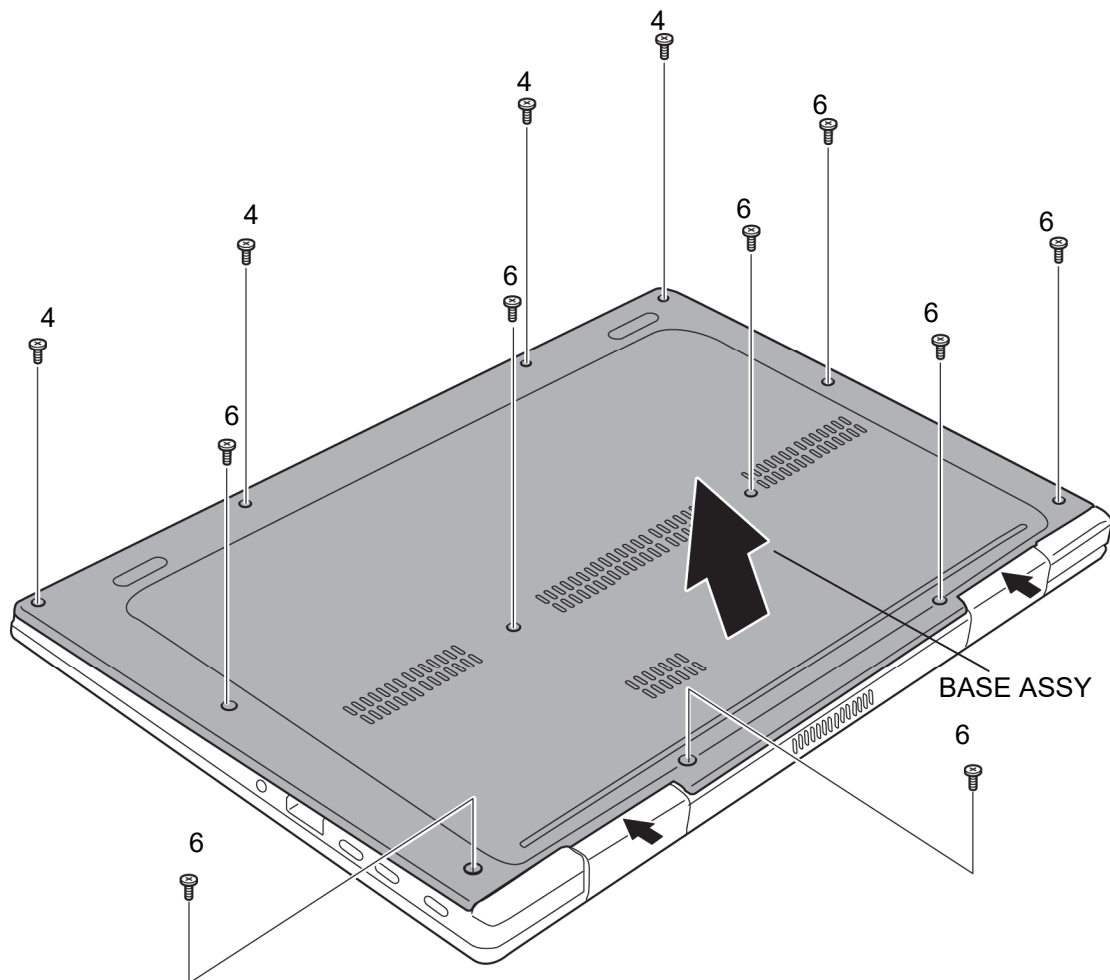

Figure 4-3 Removing the BASE ASSY (1)
To remove the BASE ASSY or BASE LTE ASSY, follow the steps below and refer to Figure 4-3 and 4-4.
- M2.5×4B FLAT HEAD screw ×4 (Described as “4” in the Figure 4-3)
- M2.5×6B FLAT HEAD screw ×8 (Described as “6” in the Figure 4-3)
To install the BASE ASSY or BASE LTE ASSY, follow the steps below and refer to Figure 4-3 and 4-4.